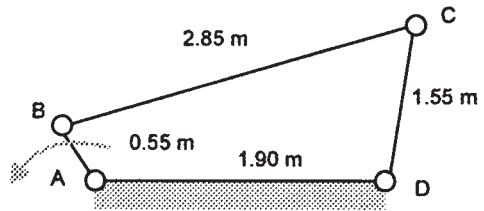

Figure 27.28 Problem 28
- 28 For the four-bar chain shown in Figure 27.28, determine the angular velocity of CD when AB is rotating at 10 rev/s.